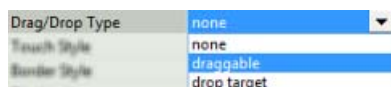

FIG. 215 Drag/Drop Type (General) property
2. In the Properties window (General tab), click on the Drag/Drop Type property to open the drop-down menu (FIG. 215):